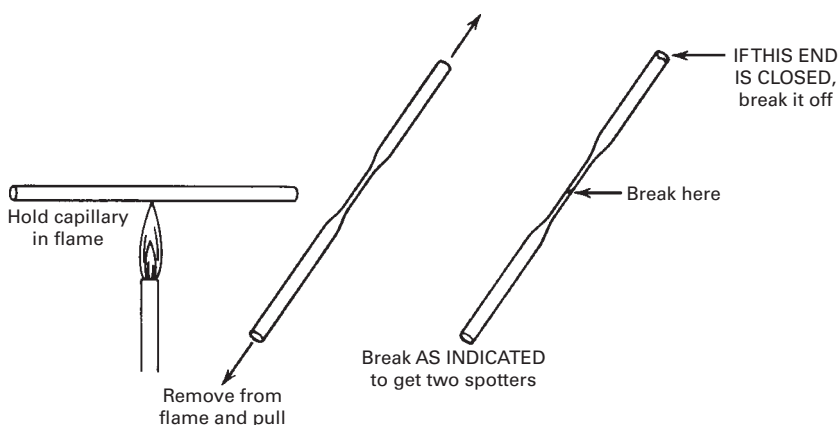

FIGURE 27.1 Making capillary spotters from melting-point tubes.
3. *Quickly* remove the capillary from the flame, and pull both ends (Fig. 27.1). If you leave the capillary in the flame too long, you get an obscene-looking mess.
4. Break the capillary at the places shown in Figure 27.1 to get **two spotters** that look roughly alike. (If you've used capillaries with *both ends open already*, then you don't have a closed end to break off.)